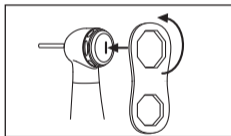

Fig. 36
- 3 Locate the correct wrench tool on the head cap then turn the wrench counter clockwise to loosen the cap. Remove the cap (Fig. 36).